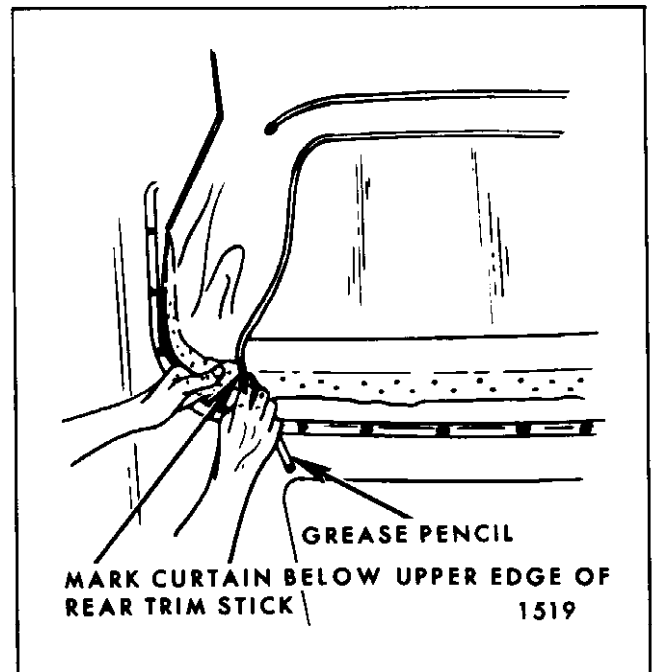

Fig. 13-7 - Locating Edge of Top Material
20. To establish relationship of right and left inner vertical edge of old top material to back curtain assembly at rear trim stick location, mark back curtain material at both locations with a grease pencil (Fig. 13-7). Reference marks should be transferred to new back curtain when step 6 of installation procedure is performed.